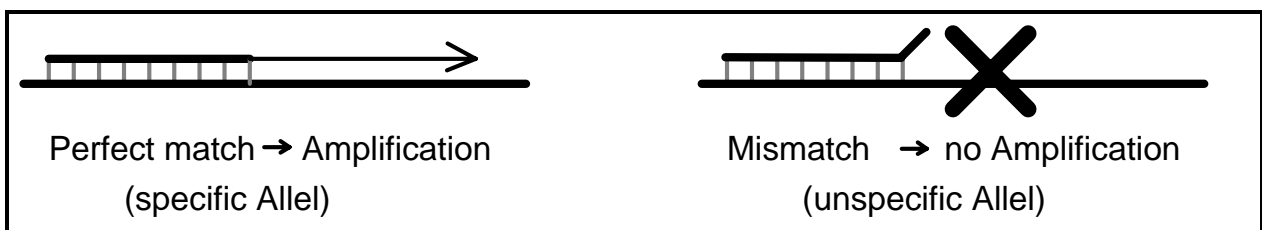

Fig. 1: Principle of SSP-PCR
The **HISTO TYPE / DNA-Wipetest** is very well suited for the detection of contaminations with genomic DNA or amplificates of the HLA class I and II genes. The test procedure is based on the Sequence Specific Primers (SSP^②)-PCR^① (see Fig. 1) [2,3]. This method makes use of the fact that primer extension, and hence successful PCR relies on an exact match at the 3'-end of both primers. Therefore, only if the primers entirely match the target sequence an amplification is obtained which is subsequently visualised by agarose gel electrophoresis.